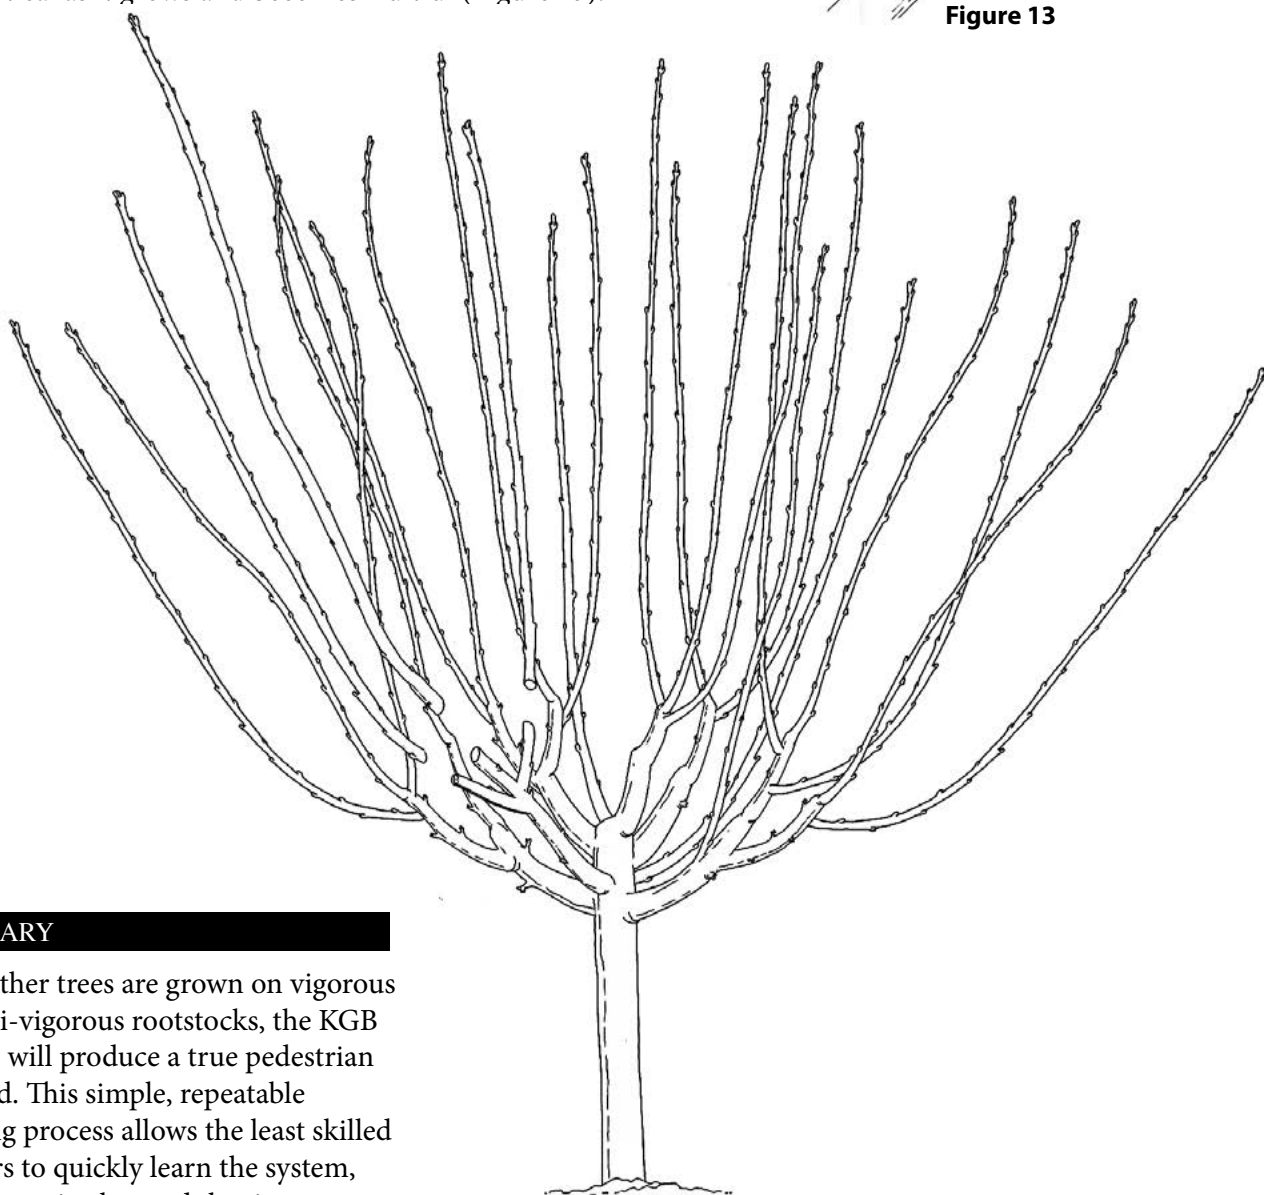

Figure 12
- Renew all leaders associated with a basal fork. Failure to do so will result in the unheaded leader becoming dominant and only weak regrowth will proceed from the adjacent stubbed leader (Figure 12).